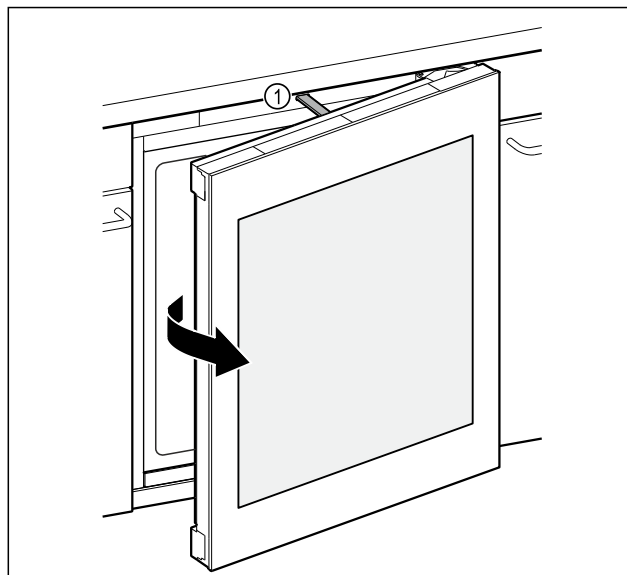

Fig. 145
- ▶ Push rod Fig. 145 (1) opens door approximately 7 cm.